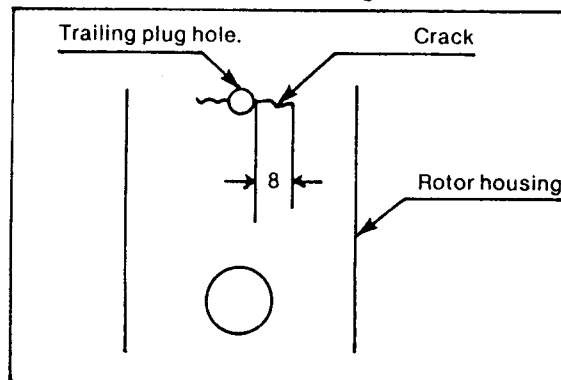

Figure 9
- (1) Trochoid surface.
- c) Check the trailing spark plug hole for cracks, as shown in Figure 9.